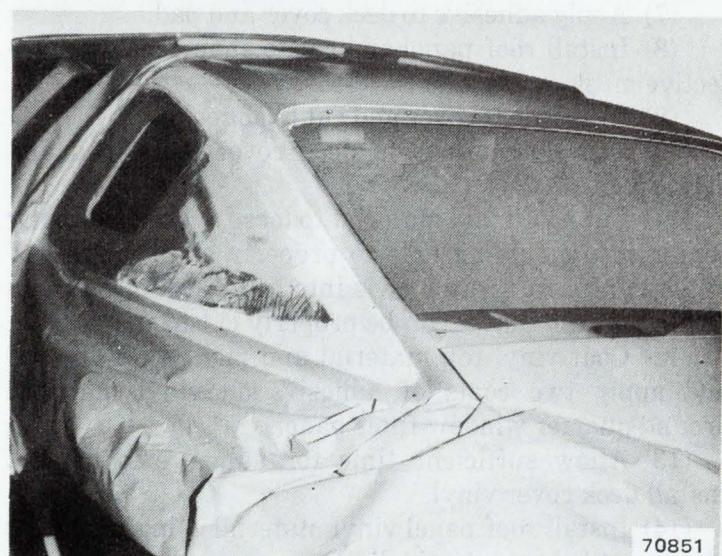

Fig. 3P-7 Rear Quarter Window Filler Panel—
(6) Remove top pad, cleaning residue adhesive with 3M General Purpose Adhesive Cleaner, or equivalent.
(7) Remove body filler around quarter window filler panel (fig. 3P-7) to expose pop rivets.